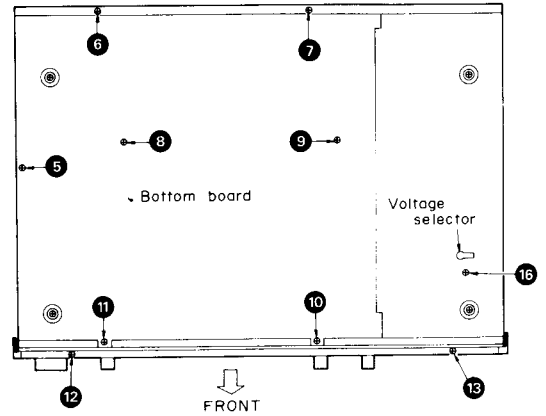

Fig. 5
2. Remove the 7 setscrews (5 ~ 11 in Fig. 5) of the bottom board.
3. Remove the screw No. 16. (Refer to Fig. 5 and 8)